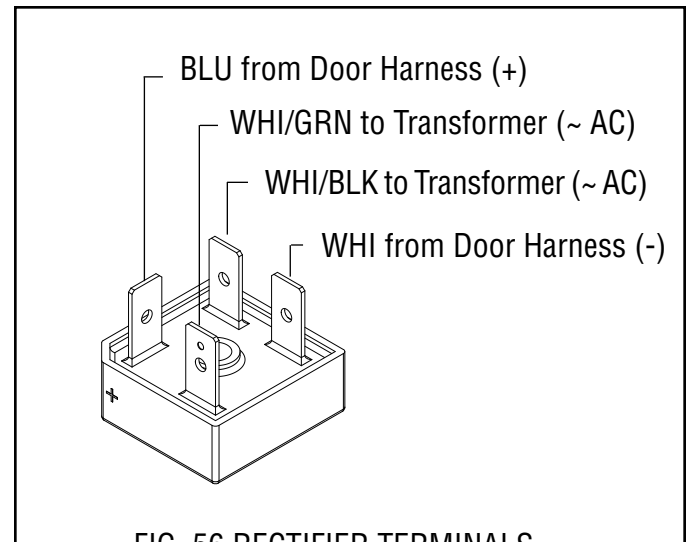

FIG. 56 RECTIFIER TERMINALS
5. Refer to Fig. 56 and reconnect the wires.